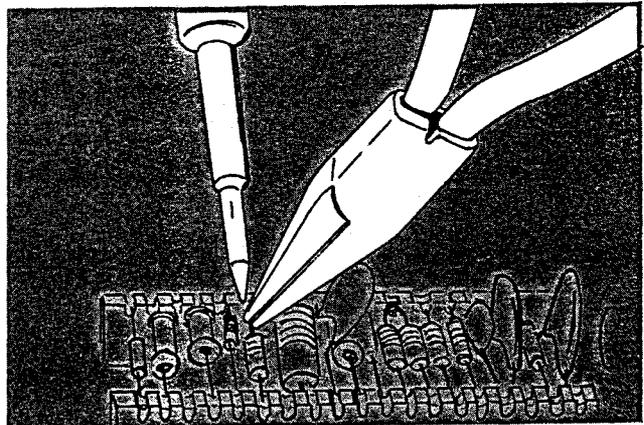
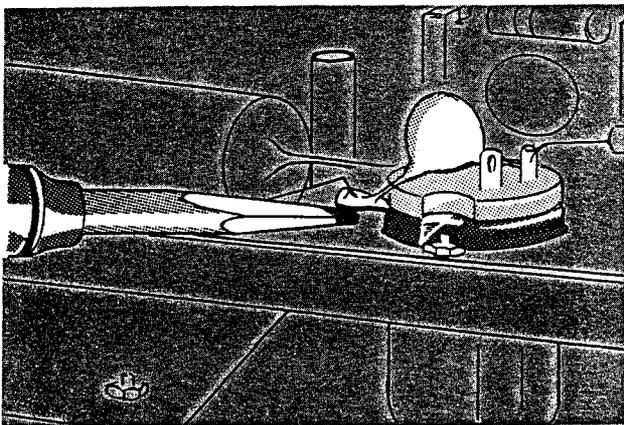

Fig. 5-2. Correct method of applying heat when unsoldering or soldering a lead in a ceramic strip.
Fig. 5-4. Soldering to a metal terminal. Note the slight fillet of solder formed around the wire.
3. Apply one corner of the soldering iron tip to the notch where you intend to unsolder the lead (see Fig. 5-2.)
In soldering leads to metal terminals (examples: interconnecting plug, pins on a tube or transistor socket) a similar technique should be employed. Use a soldering iron tip having a shank diameter of  $\frac{1}{8}$  inch so that it will go through small spaces between wiring. Prepare the soldering iron as outlined previously and apply the iron to the part to be soldered as shown in Fig. 5-2. Allow the joint to heat sufficiently to permit the solder to flow freely and to form a smooth, slight fillet around the wire as shown in Fig. 5-4.